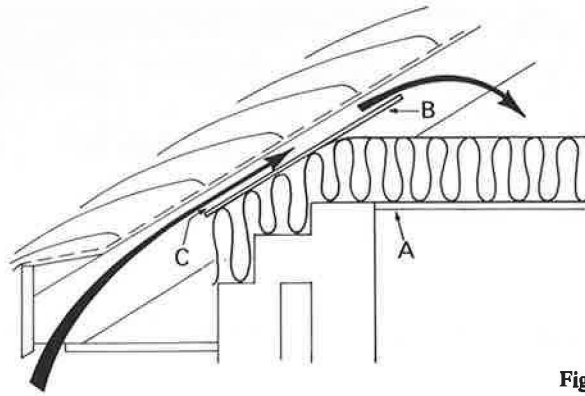

Figure 4
- Take care at the eaves that the insulation covers the whole ceiling (A, Figure 4).
- Ensure that the insulation is laid up to stops or spacers which should have been provided for roof ventilation (B, Figure 4).
- When the insulation has been laid, check that the cross-ventilation provided for in the design is not blocked in any way (C, Figure 4).